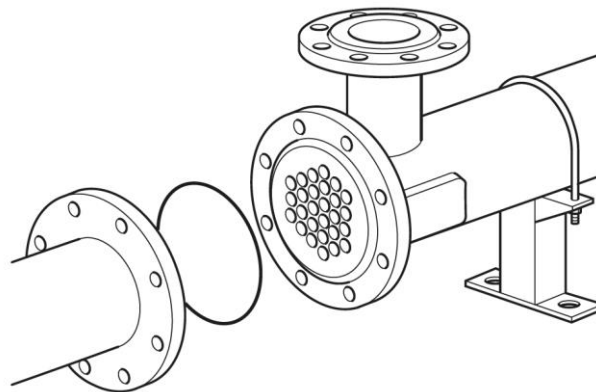

Fig. 15
- replace the gaskets with new ones as indicated in Fig. 15.